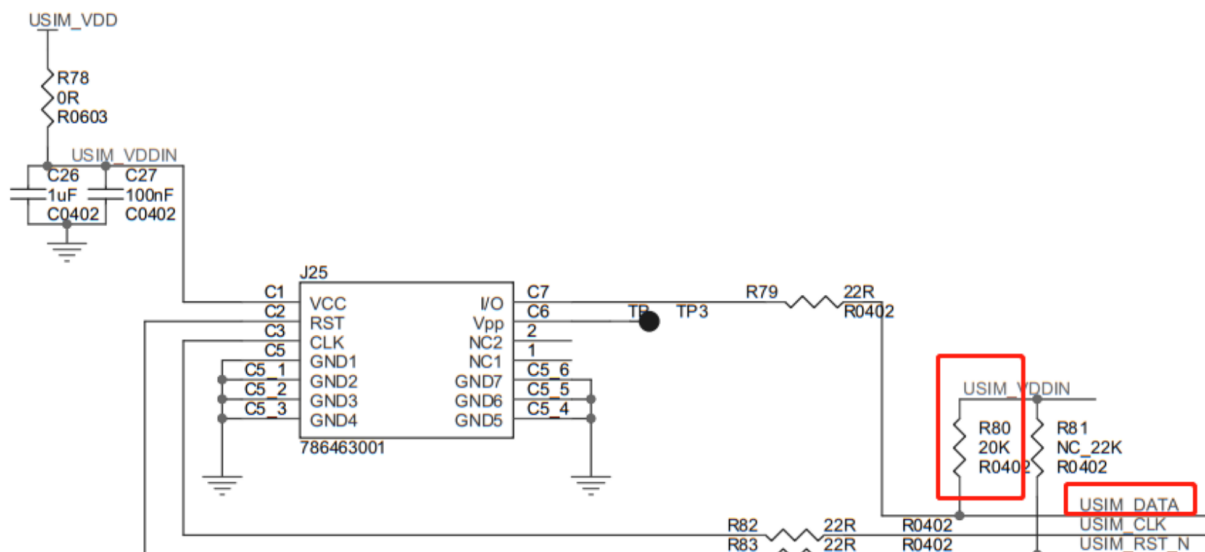

Figure 12 The SIM card reference circuit
1) The SIM DATA pin is recommended to add a typical value of 20K pull-up resistor, without adding the pull-up resistor may have a risk that some SIM cards can not be correctly identified, and affecting the communication. The reference circuit is shown in Figure 12.